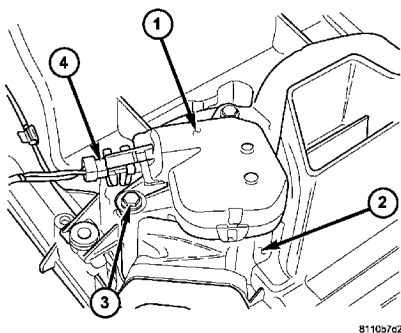

Fig. 6 Mode Door Actuator - Floor Console
- (1) Remove the front center floor console cover (Refer to 23 - BODY/INTERIOR/CENTER CONSOLE - REMOVAL).
- (2) Disconnect and isolate the negative battery cable.
- (3) Disconnect the body wire harness connector from the rear mode door actuator (Fig. 6).
- (4) Remove the two screws that secure the mode door actuator to the rear blower motor housing and remove the actuator.